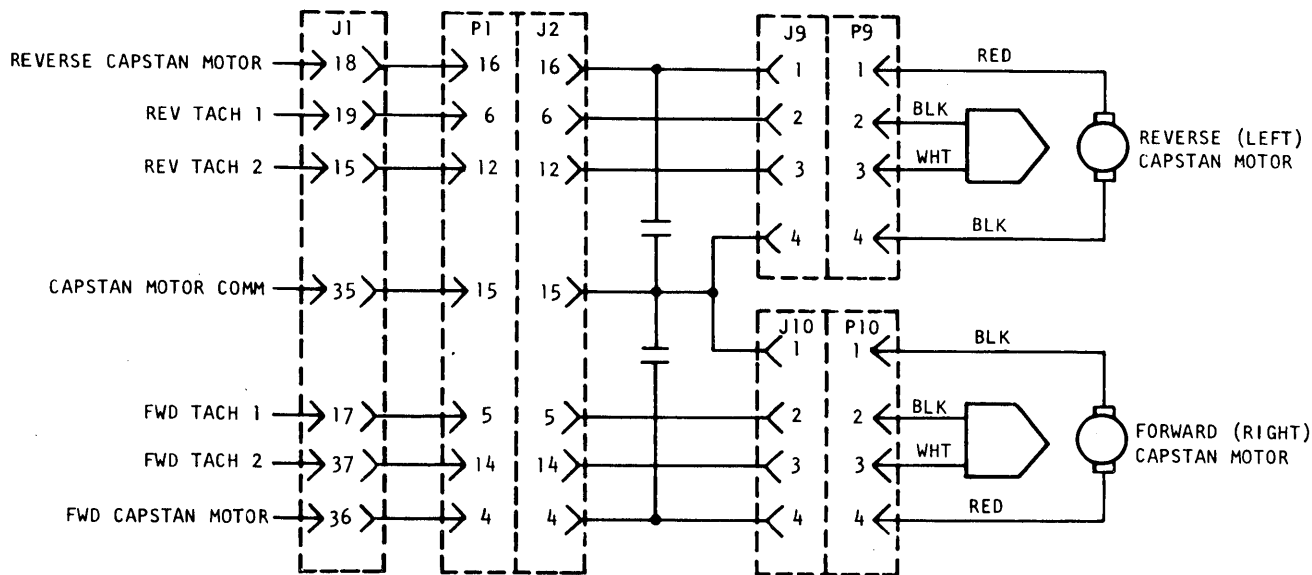

Figure 15. DC Capstan Motor Connections
**DC Capstan Motor and Connections.** - Permanent magnet DC motors with specially wound ironless armatures are used as DC capstan motors. These motors possess high efficiency and low inertia and have very low cogging effects. They are fitted with shielded pre-loaded ball bearings and their shafts are extended to form the capstan. The shafts are processed to a controlled degree of roughness to improve the coupling between the tape and the capstan when the pinch roller is engaged. The capstan has a constant diameter of 0.118 in. but the speed of the motor can be varied by the control electronics so that a range of tape speeds is possible. The DC capstan motor connections are shown on Figure 15 and listed on Table 4.